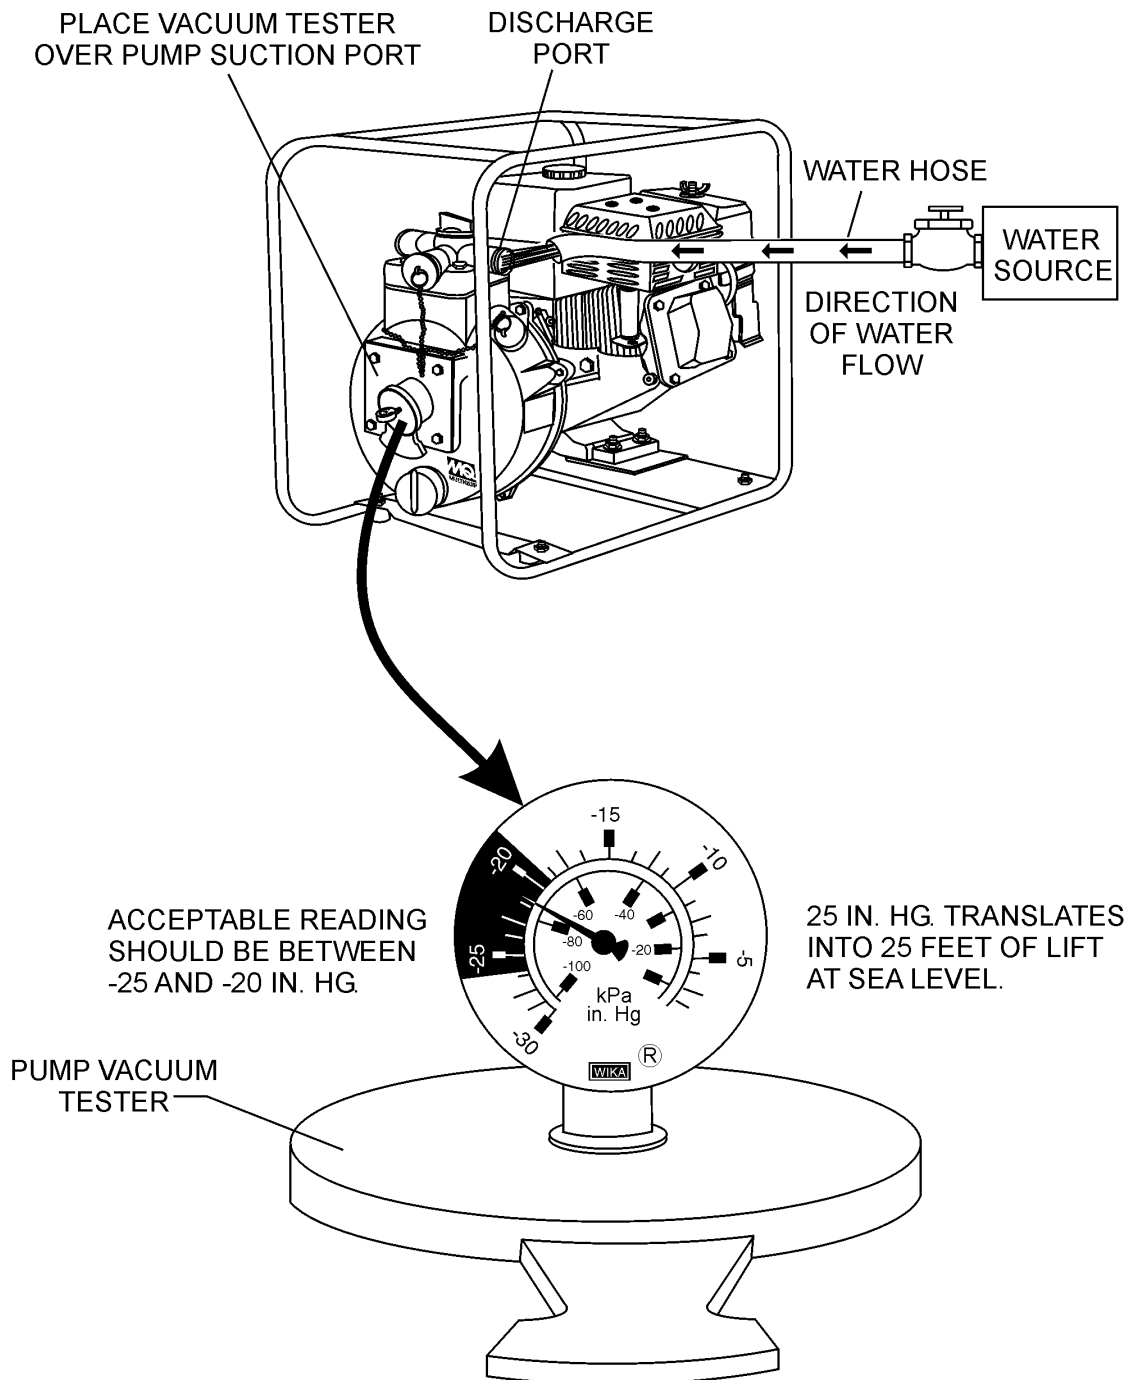

Figure 17. Pump Vacuum Tester
3. As shown in Figure 17, place a water hose inside the discharge opening of the pump, and turn on the water. This flow of water into the discharge opening will **prevent** the pump from running dry.
4. Place the Pump Vacuum Tester (P/N 7000030) over the pump suction (inlet) opening (See Figure 17) with the vacuum gauge facing upwards. It may be necessary to apply a small amount of water around the rubber seal of the vacuum tester to make a good suction fit.